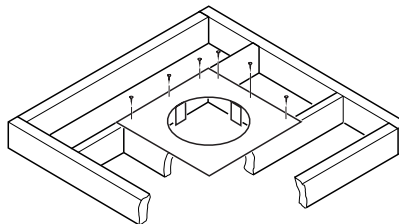

**Figure 22 - Offset with Wall Strap and 45° Elbows**
1. Determine the route your vertical venting will take. If ceiling joists, roof rafters, or other framing will obstruct the venting system, consider an offset (see Figure 22) to avoid cutting loadbearing members. **Note:** Pay special attention to these installation instructions for required clearances (air space) to combustibles when passing through ceilings, walls, roofs, enclosures, attic rafters, etc. Do not pack air spaces with insulation. Also note maximum vertical rise of the venting system and any maximum horizontal offset limitations. Offsets must fall within the parameters shown in Figure 9 on page 6.
**Note:** If an offset is needed to avoid obstructions, you must support the vent pipe every 3 feet. Use wall straps for this purpose (see Figure 22). Whenever possible, use 45° elbows instead of 90° elbows. The 45° elbow offers less restriction to the flow of the flue gases and intake air.
5. Place the flashing over the pipe section(s) extending through the roof. Secure the base of the flashing to the roof and framing with roofing nails. Be sure roofing material overlaps the top edge of the flashing as shown in Figure 22. There must be a 1" clearance from the vent pipe to combustible materials.